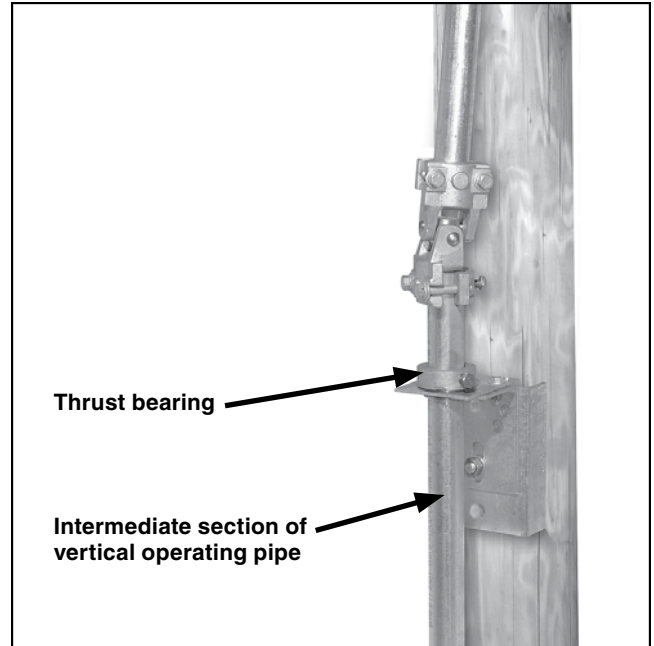

Figure 30. Install the intermediate section of the vertical operating pipe. Make sure the thrust bearing is resting on the guide bearing.
STEP 27. Pass the next section of the vertical operating pipe up through the guide bearing and then through the thrust bearing. The thrust bearing will rest on the guide bearing and support the operating pipe. See Figure 30.